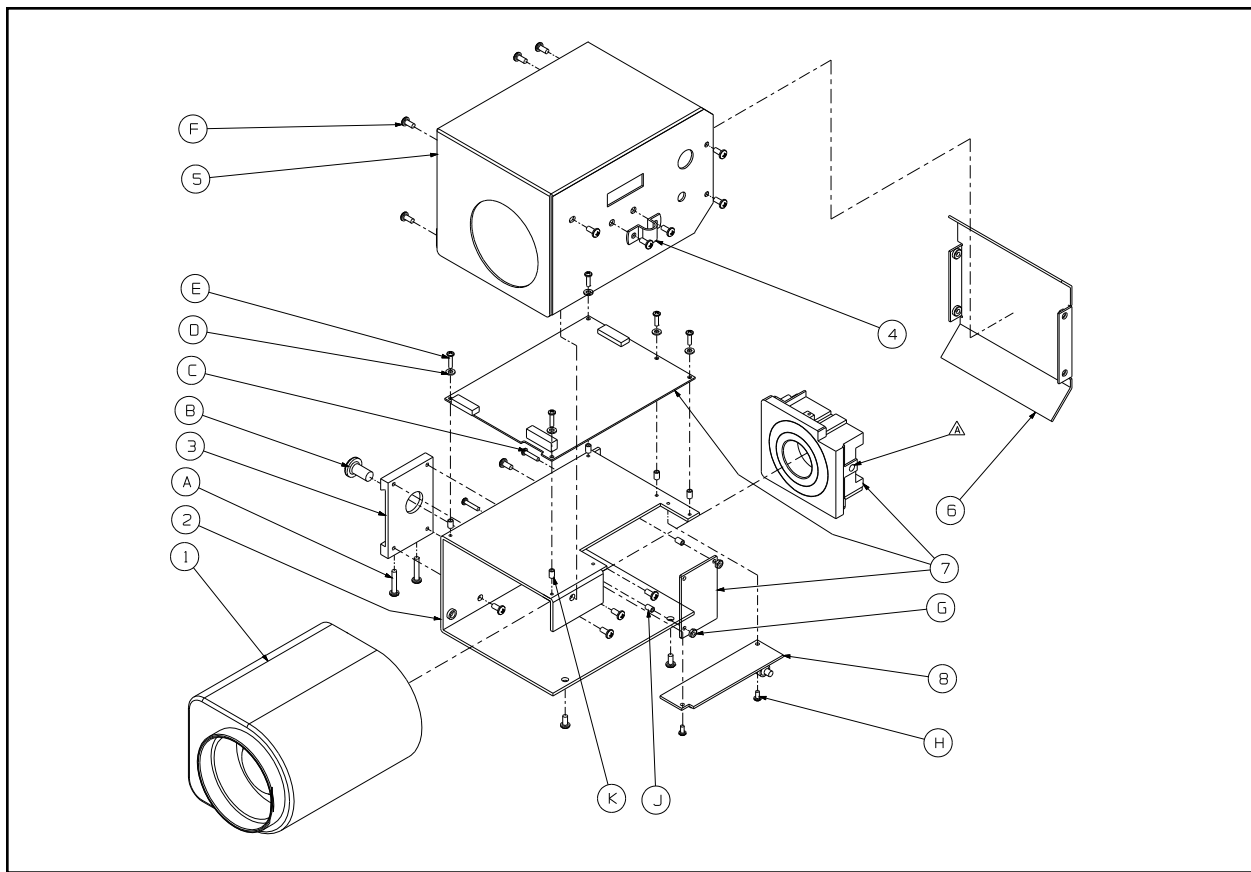

Figure 8. TVH6 Series Camera/Lens Combination Exploded Assembly Drawing
If necessary, refer to Figure 8 for an exploded assembly drawing and parts list.
7.1 PARTS LIST FOR FIGURE 8, TVH6 SERIES